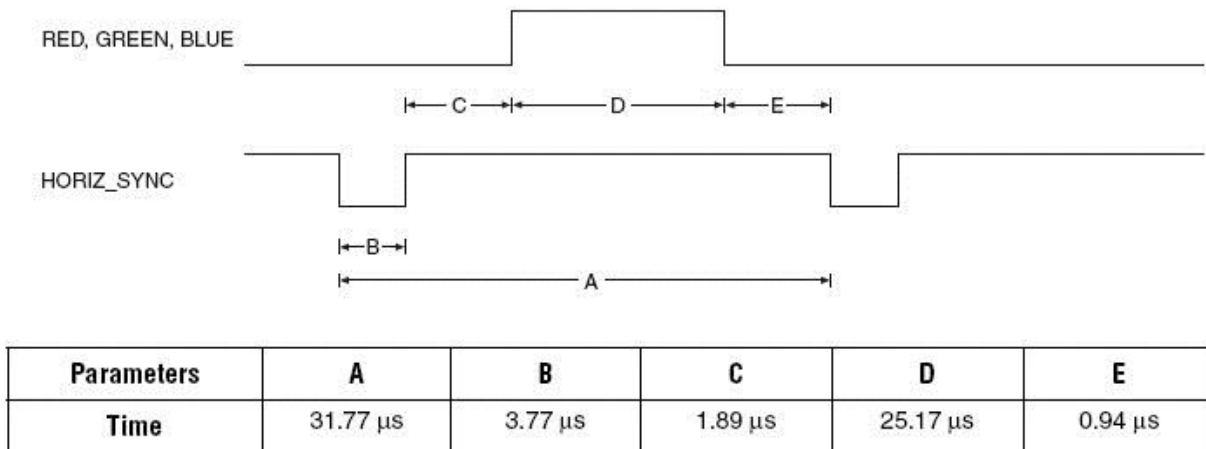

Figure 1. Horizontal Refresh Cycle.
The VGA monitor connector on the ALTERA DE0 board consists of five signals, RED(4 bits), GREEN(4 bits), BLUE(4 bits), `HORIZ_SYNC`, and `VERT_SYNC`. Look into the ALTERA DE0 Board User Manual for the header pin outs for the ALTERA DE0 board for these 5 signals. The timing relationships among this signal are shown in **Figures 1 and 2** at the end of this lab document. The generation of signals needed for the raster on the VGA monitor begins with dividing the frequency of the 50 MHz clock on the ALTERA DE0 board down to a 25 MHz pixel clock which is further divided down to the horizontal and vertical sync frequencies. This means your design will contain a **horizontal counter** and a **vertical counter**. The horizontal and vertical sync pulses of appropriate lengths are then produced from the two counters.
Blanking intervals. In order to accommodate the time required to move the electron beam back to the left side of the screen (horizontal retrace period) the electron beam must be turned off during the retrace time or the return trace would be visible. This is accomplished by two blanking intervals during the horizontal refresh cycle marked by B and C at the beginning of the trace and E at the end of the trace in Figure 1. Similar blanking intervals are required during vertical refresh (P, Q, and S in Figure 2). The color beams are turned on only when the horizontal counter is in the period D and the vertical counter is in period R.
- A value of zero on Hcount corresponds to the beginning of section D in Figure 1.